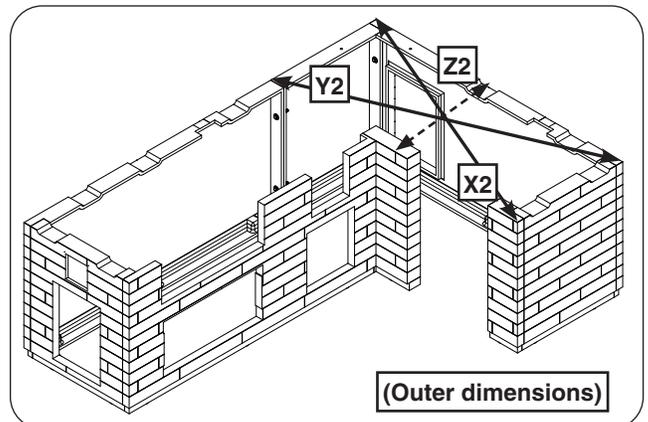

Fig. 14-3 Square unit (then tighten all bolts)
- d. Repeat this process for X2, Y2, and Z2 (see Fig. 14-3). X2 should be approximately  $81 \frac{1}{2}$ ". Z2 should be approximately 32".